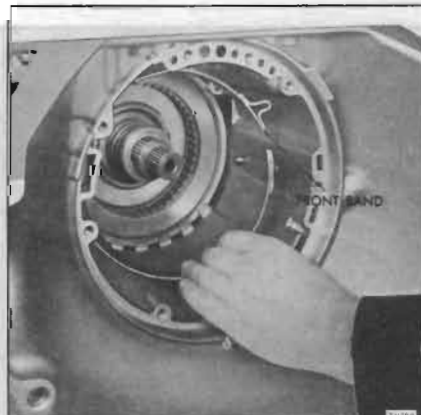

Figure 74-760
17. Install front band with band anchor hole placed over the band anchor pin and apply lug facing servo hole. See Figure 74-760.